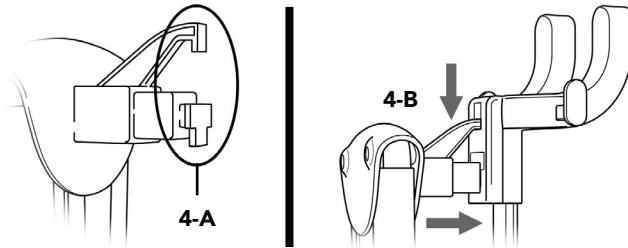

FIGURE 4
1. Locate brackets on back of Hanger (FIGURE 4-A).
2. Align Hanger with Hanger Anchor Holes on front of Pole Top. Insert brackets into holes, then slide Hanger down to lock it in place (FIGURE 4-B).